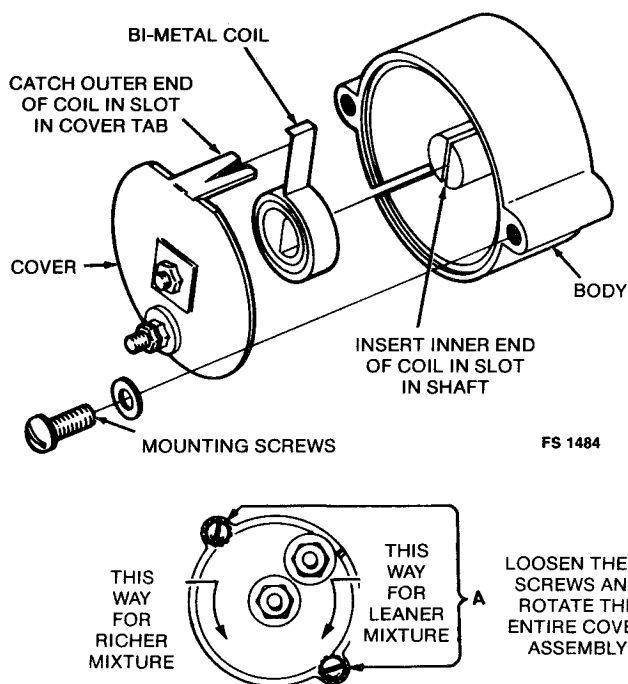

FIGURE 20. ELECTRIC CHOKE ADJUSTMENT
**Adjustment:** Table 2 lists average choke settings. Loosen the two mounting screws and rotate the choke cover until the correct setting is attained. Check the setting by starting the engine and observing its operation. Be sure to retighten the mounting screws after adjustment (See Figure 20).